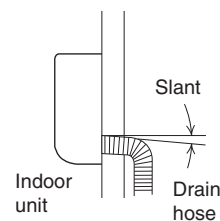

Fig. 3-105
- a) The drain hose should be slanted downward to the outdoors. (Fig. 3-105)